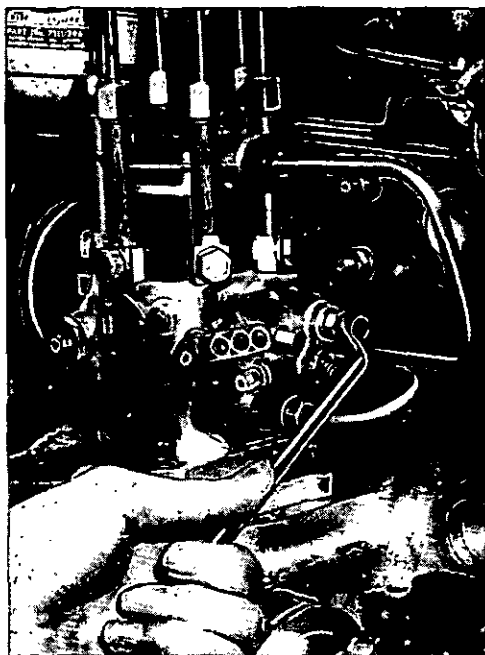
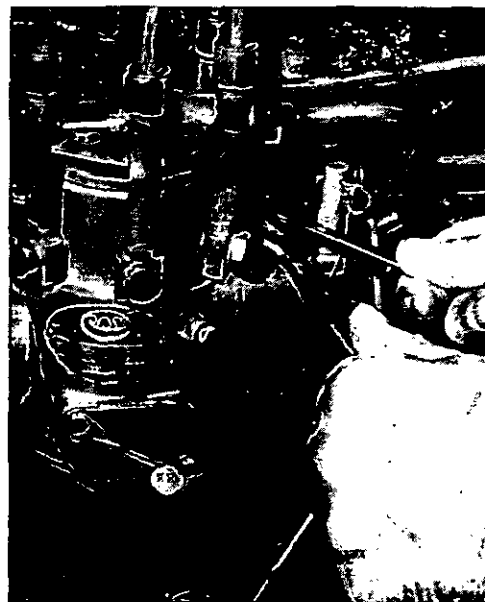

Fig. M.23.
Fig. M.24.
1. Slacken the air vent valve on the side of the control gear housing (hydraulic governor) Fig. M.23, or on the top of the governor control cover (mechanical governor) Fig. M.24.
- (b) Governor cover vent valve Figs. M.23 or M.24.